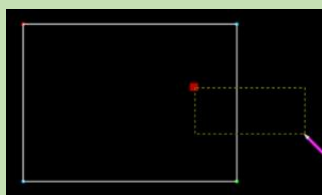

Figure4-17
1. Select the line segment that needs to be extended by box selection (as shown in Figure 4-17).